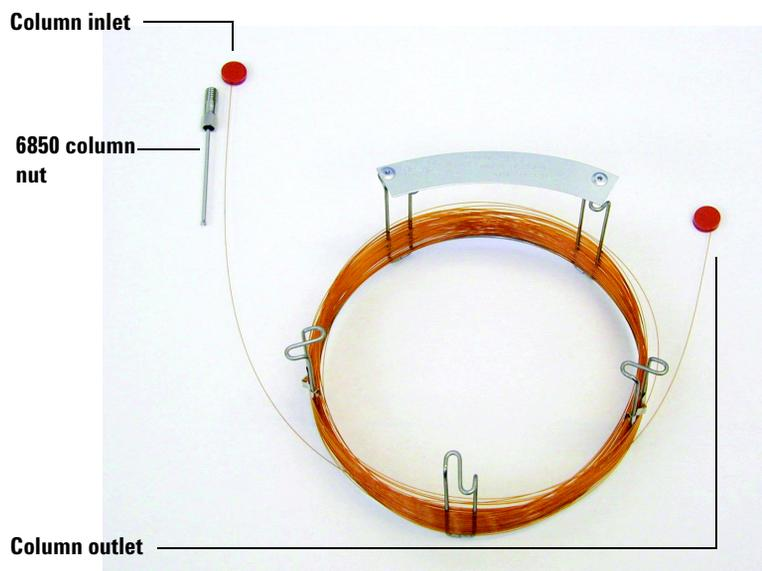

Figure 7 Column
- 1 Lay the column (19091S-433E found in the GC ship kit) on a clean surface with the column label facing the user in the 12 o'clock position. Note that the inlet and outlet ends of the column are oriented the same as when a GC detector is used and the column outlet is positioned at the back (closer to the fan) of the column cage holder. See Figure 7.